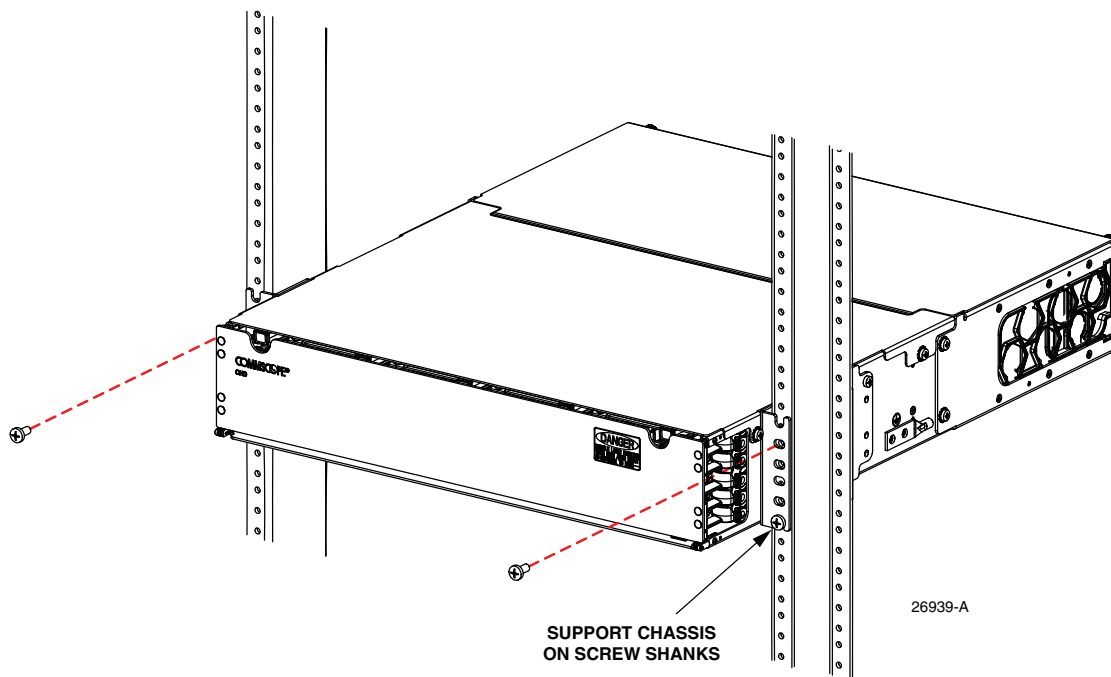

Figure 9. Mounting the Panel
3. Once the mounting brackets are located in the correct position (Figure 9):